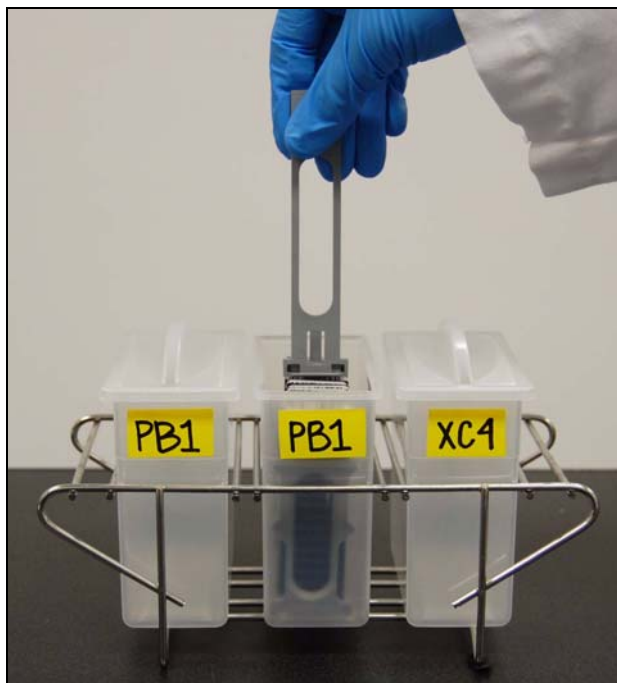

Figure 66 Moving BeadChips to the Second PB1 Wash Dish
12. Transfer the wash rack to the second PB1 wash dish and let it soak for five minutes (Figure 66).